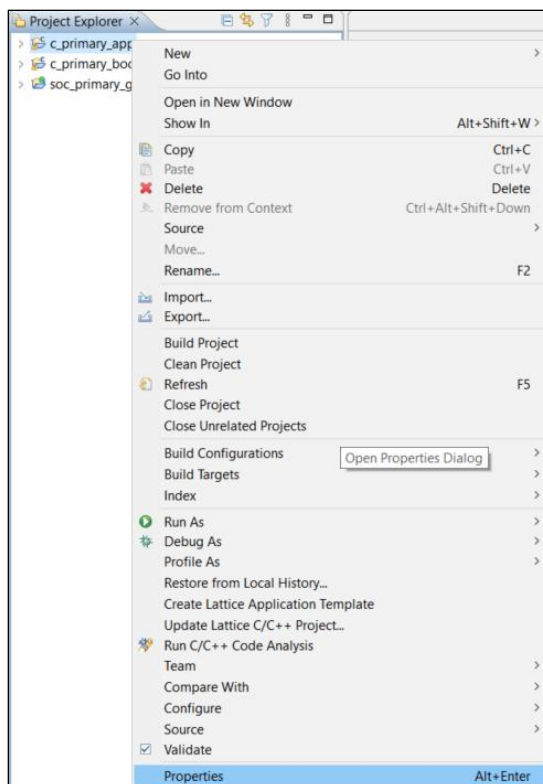

Figure 8.31. Properties
30. The console output is displayed as shown in Figure 8.31.